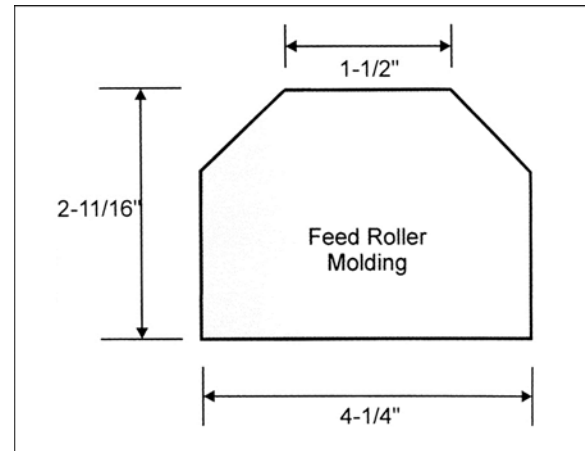

Figure 17
1. Following the method for setting the feed rollers when planing (previously explained in this manual), make another wooden block 5/16" lower than the cutterhead block. See Figure 17.